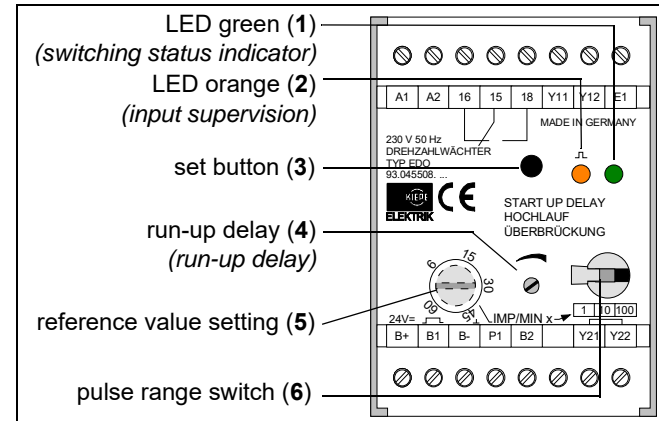

Fig. 3-2: Operating elements of the speed monitoring device
The indicator input (17) (terminals B+, B1, B2, B-) of the speed monitoring device is designed for all common rotational speed indicators complying with the NAMUR regulations (s. fig. 3-2). It is also possible to connect 3-wire pulse indicators (negative switching NPN or positive switching PNP). The indicator input (17) can be supervised by means of the light-emitting diode LED orange (2). Any number of rotational speed monitoring devices can be connected to one pulse indicator (s. section 5.3.2).
By means of the potentiometer run-up delay (4) the duration of the run-up delay can be set between 0 and approx. 40 seconds (s. fig. 3-2). During this time, the output relay (16) remains attracted, and the plant can be started.